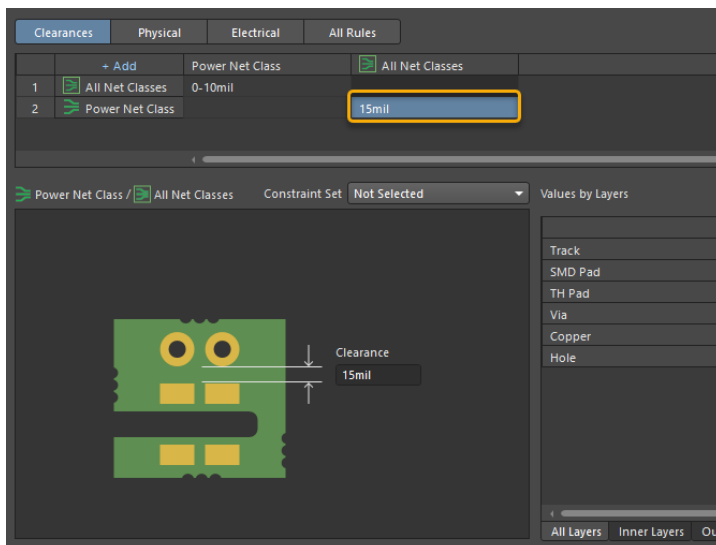

Figure 7. Clearance for the Power Net Class
19. From the matrix, select the cell `Power Net Class` in the *All Net Classes* column and change the value to 15mil, as seen at Figure 7